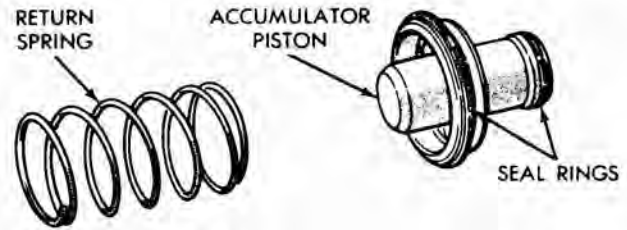

Fig. 32—Accumulator Piston and Spring
(4) Install accumulator piston in the transmission case (Fig. 32).
(5) Place valve body in position, working park rod through opening and past sprag. Install retaining bolts finger tight.
(6) With neutral starting switch installed, place manual lever in the neutral position. Shift valve body, if necessary, to center neutral finger over the neutral switch plunger. Snug bolts down evenly, then tighten to 105 in. lbs. (12 N·m).
(7) Connect lockup solenoid wire to wiring connector at rear of transmission case.
(8) Install gearshift lever and tighten clamp bolt. Check lever shaft for binding in the case by moving lever through all detent positions. If binding exists, loosen valve body bolts and realign.
(9) Make sure throttle shaft seal is in place, then install flat washer and throttle lever and tighten the clamp bolt.
(10) Position the round magnet over the bump in the front, right hand corner of the oil pan.
(11) Install oil pan, and a new gasket.